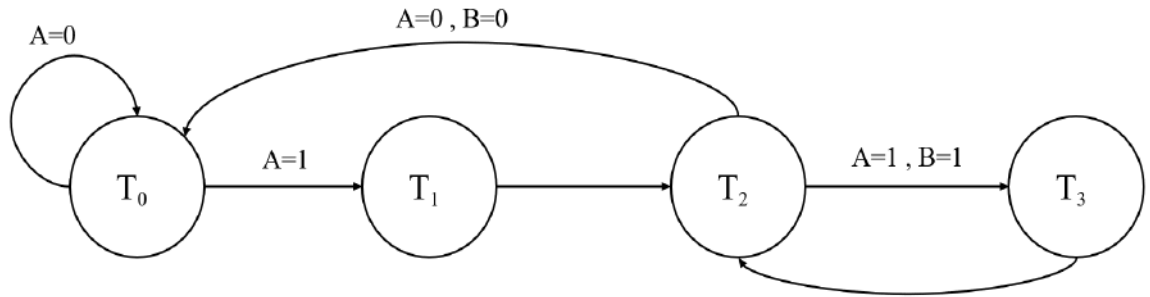

Figure 2: State Diagram for Question 3-b
- (b) Suppose you are implementing the state diagram shown in **Figure 2** using the *Sequence Register and Decoder Method*. Find the necessary equations for all the flip-flops to be used in this method. [4]